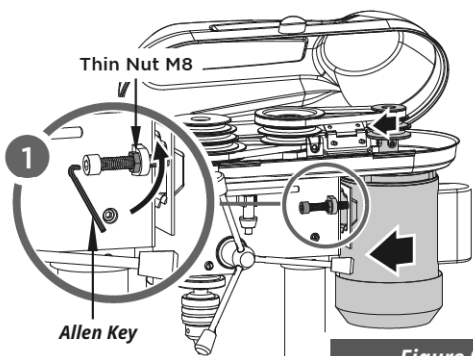

Figure 9
3. Unfasten the thin nut M8 enough and release the clamping screw with an allen key 6 mm (not scope of delivery) on the motor. (See Figure 9)